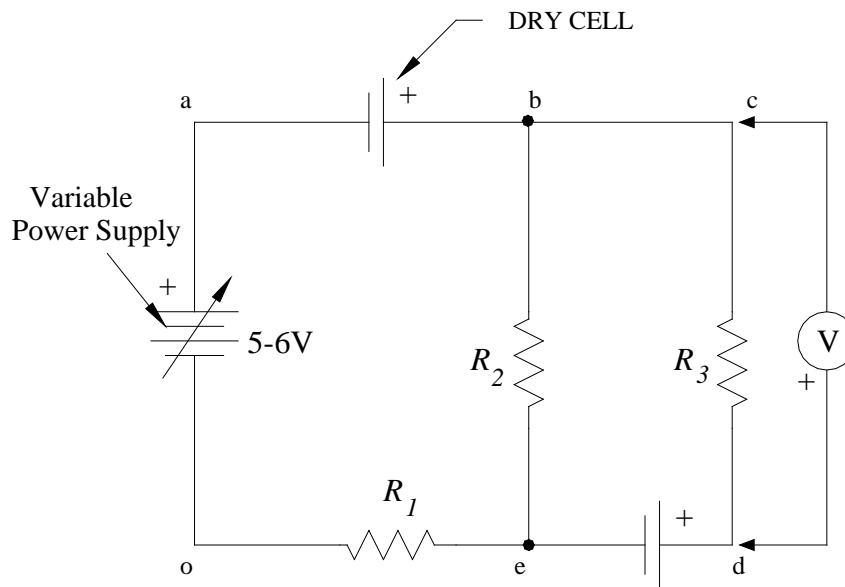

Figure 5 Schematic of the circuit used to study Kirchhoff's loop theorem.
9) Build the circuit shown in Figure 5. Set the DMM to DC Voltmeter mode and set the range to 20V. Look at the circuit and notice that there are three separate paths through which current can flow. There is a loop that goes all the way around the outside (rectangle acdo), a loop on the left side (rectangle abeo), and a loop on the right side (rectangle ebcd). Kirchhoff's loop theorem states that the sum of the voltages around any closed loop must equal zero. We will now define a voltage V_{cd} to mean the voltage between point c and point d. You measure this voltage by placing the negative meter lead at c and the positive meter lead at d. See Figure 5 for an example. Look at the right loop and, starting at point e, write the sum of the voltages around the loop: